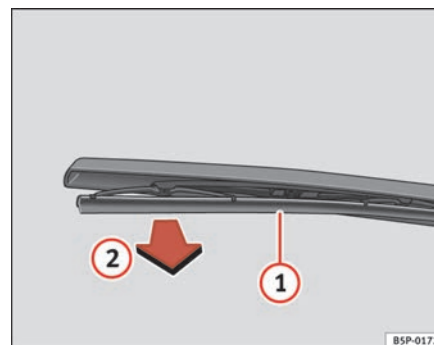

Fig. 171 Changing the rear window wiper blade
- Lift the wiper arm away from the glass ⇒ fig. 171.
- Unclip the wiper blade ① and pull ② ⇒ fig. 171.